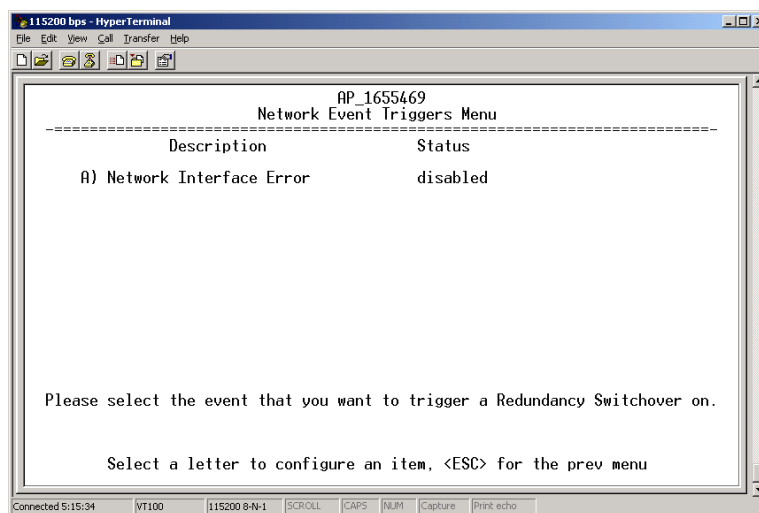

Figure 3-73. Network Events Triggers Menu
- **Network Event Triggers**—This selection opens a submenu (Figure 3-73 on Page 106) where you can set/view the trigger status for Network Events.